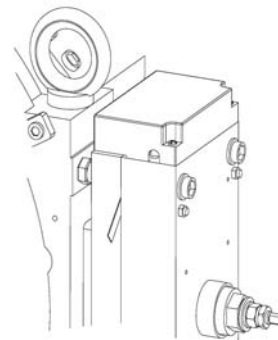

Fig.25 Detecting the air gap between rotor and magnetic yoke with a feeler gauge
4. Use a feeler gauge to examine the air gap on one corner as shown in Fig.25 on P18, and confirm whether the gap is within the standard range;